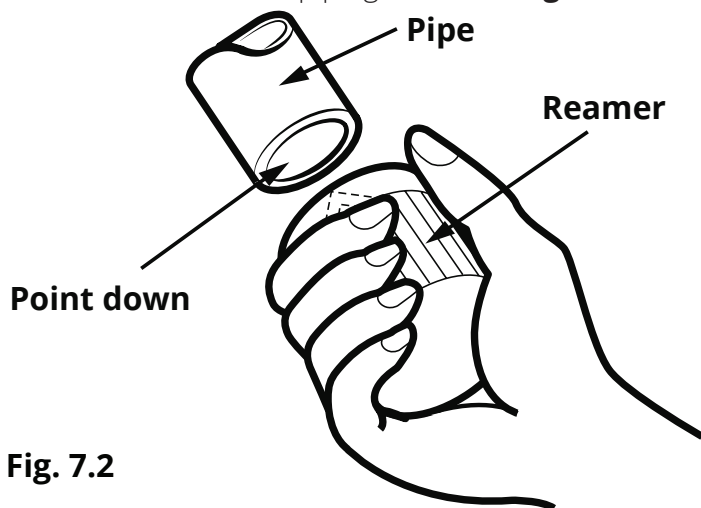

Fig. 7.2
2. Using a reamer or deburring tool, remove all of the burrs from the piping. **Refer to Fig. 7.2 below.**